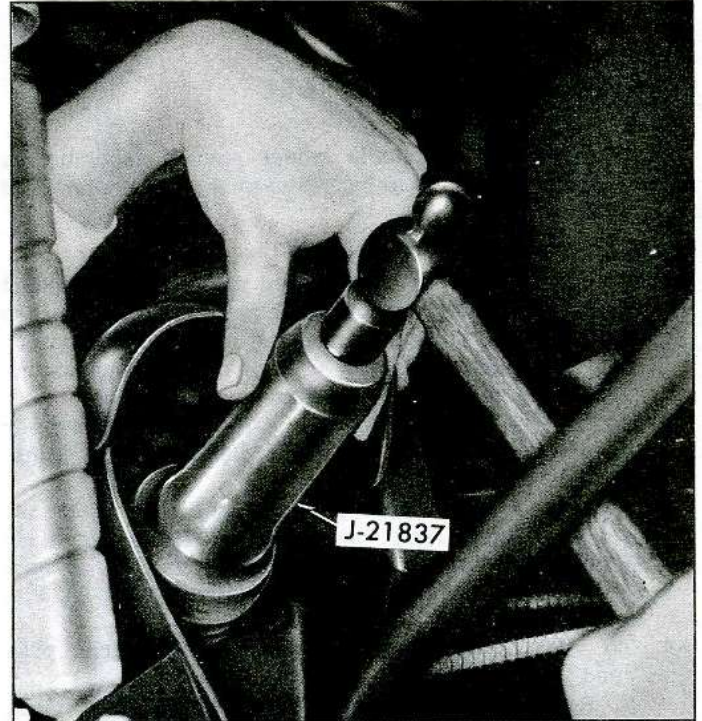

Fig. 68—Installing Spindle Support Inner Seal
12. Install spindle support inner seal, using Tool J-21837 (fig. 68), then install dust deflector to support.